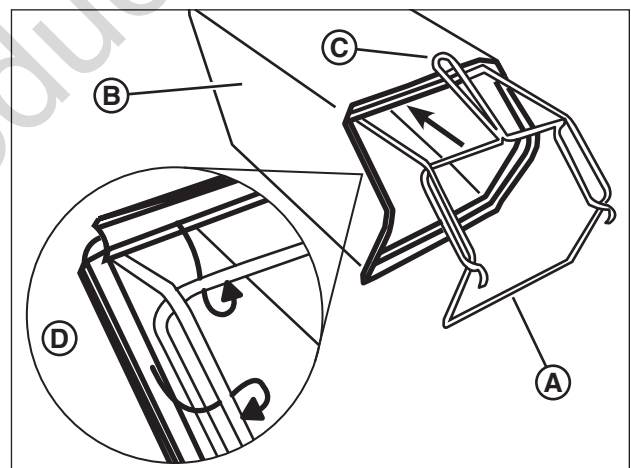

Figure 3: Assembling the grass bag
1. Slide the frame assembly **(A, Figure 3)** into the grass bag **(B)**. Ensure the handle **(C)** is on the outside of the grass bag.